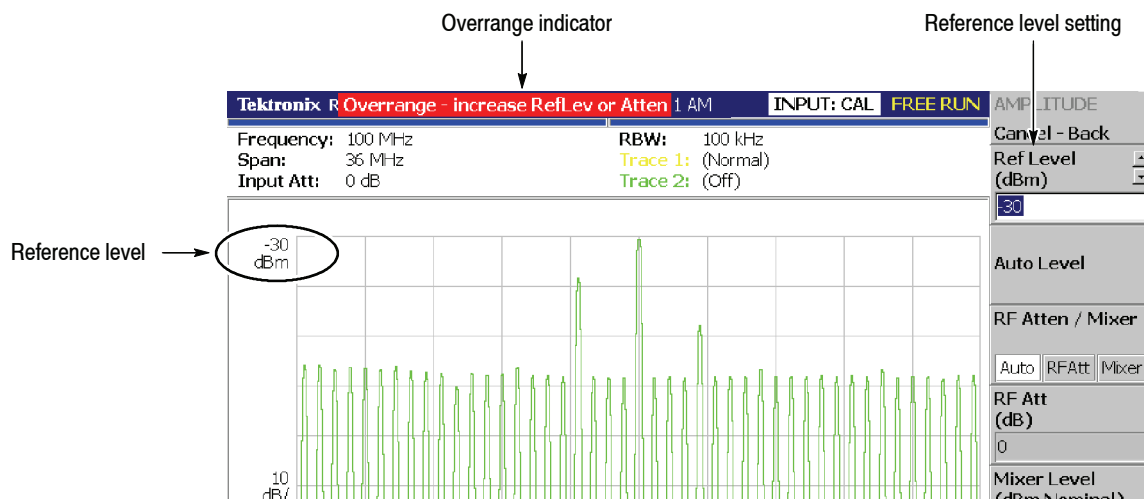

Figure 3-3: Reference level setting and Overrange indicator
- b. Make sure that the reference level is set to 0 dBm with the **Ref Level** side key. Check that 0 dBm is displayed on the upper left side of the graticule (see Figure 3-3).
- d. Confirm that “Overrange - increase RefLev or Atten” is indicated in the red box at the top center of the screen. Make sure that -30 dBm is displayed on the upper left side of the graticule and that the spectrum waveform is distorted as shown in Figure 3-3.